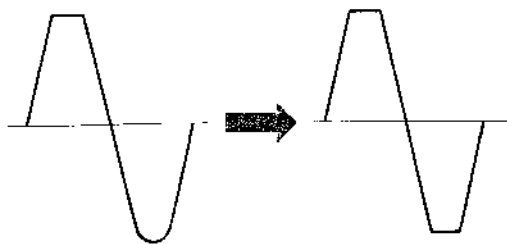

Fig. 4-7-2 AC Balance Adjustment
2. Turn the volume control gradually and watch the waveform on the oscilloscope. Adjust R₃₀₅ (50 kΩ-B) to obtain an output waveform such as the positive and negative peaks are clipped at the same time when increasing the volume control. See Fig. 4-7-2.